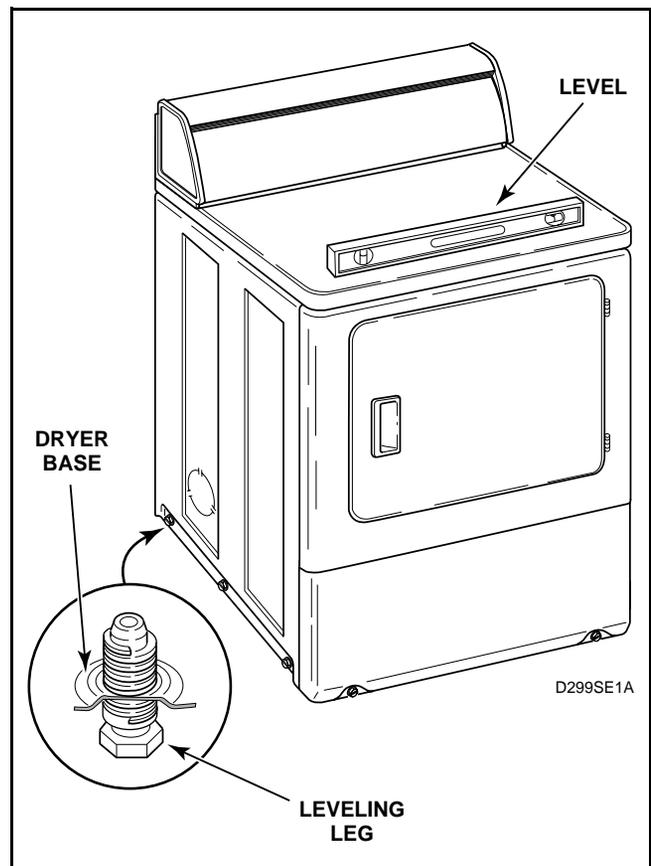

Figure 36
- p. Remove leveling legs from base and reinstall on new base. See *Figure 36*.
(Figure 36)